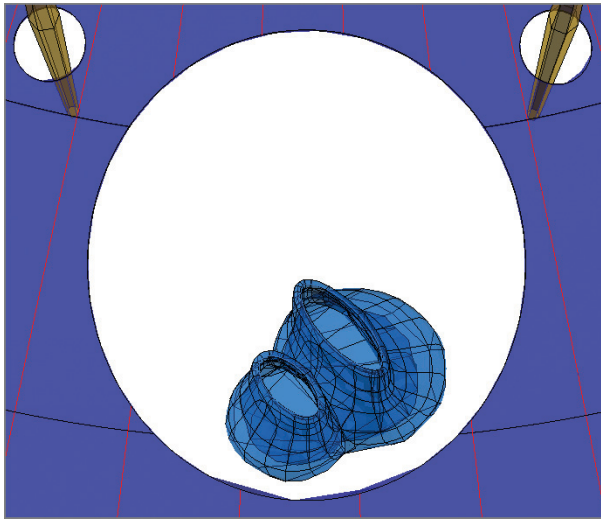

FIGURE 16.14 Orbiting for better view of subject
4. Click the Orbit tool in the Navigation bar. Drag down in the drawing canvas to orbit your point-of-view upward until you can see the ventilation towers unobstructed by the dome membrane (see Figure 16.14). Press Esc to end the 3DORBIT command.